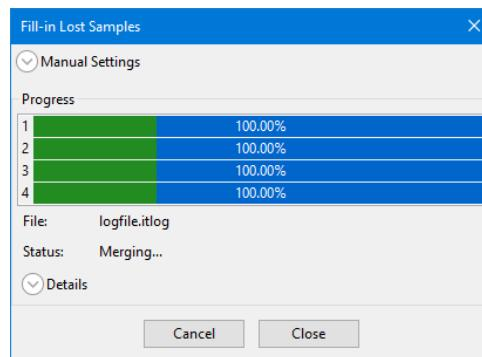

Figure 30: Merging
3. In the third stage, the received data is merged into the *itlog* file (Figure 30). The progress bars are filled with green bars to show the progress. If there is still some missing data, sections in a progress bar are made red and messages with information about the missing sections are added to the notification area. A manual restart could fill in the remaining missing samples (see Section 3.5.2).